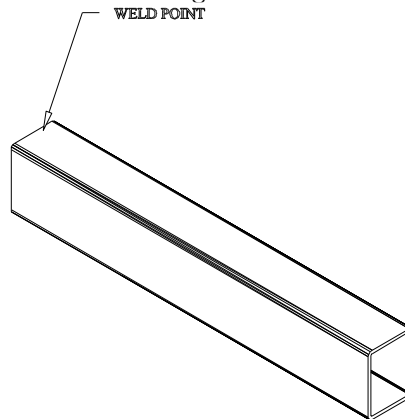

Figure 3
- 9) Make sure that it is level and square with the truck and finish welding the leg to the pad. Refer to the figure 3 below.